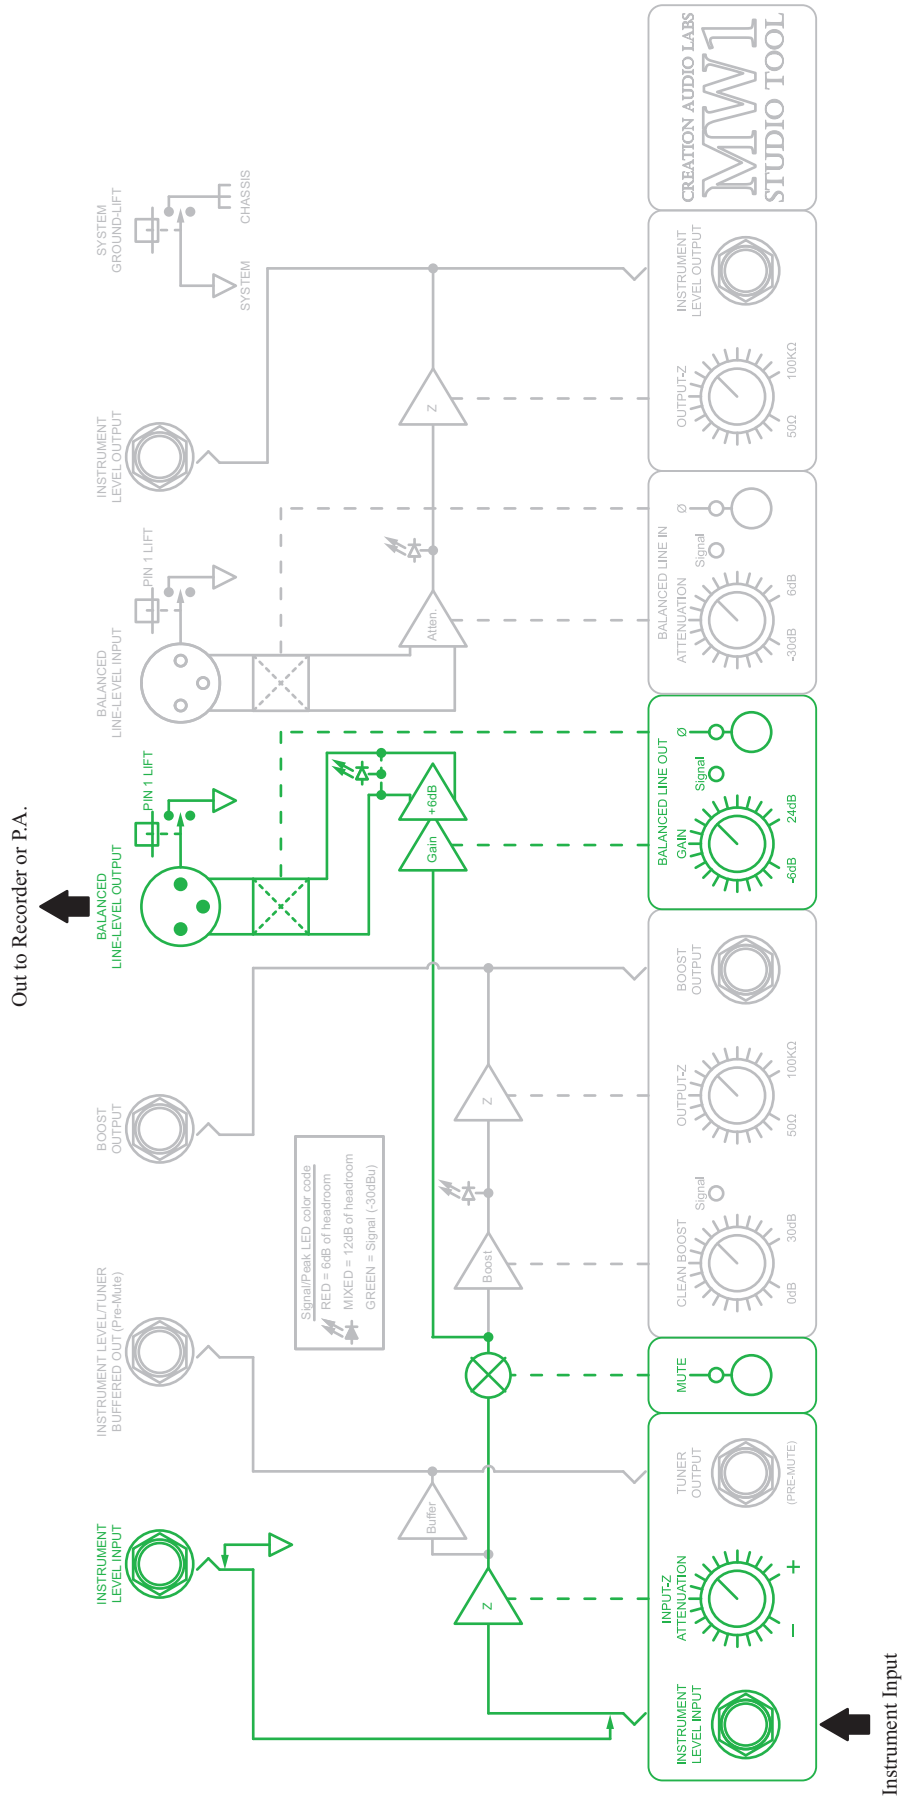

FIG. 4
- Transformerless DI with no sound coloration. (Fig. 4)